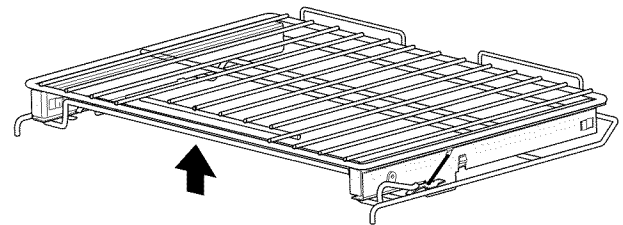

Figure 2 - Extendable glide rack with release lever in unlocked position
The fully extendable glide rack -Fig. 2- makes food preparation easier. Especially when preparing heavier dishes. The glide oven rack has 2 glide tracks that allow you to extend your food away from the oven effortlessly without rubbing the sides of the oven wall.
2. While holding up the release lever (see figure 2), pull the glide rack out of the oven until the stop position is reached, use two hands if necessary.